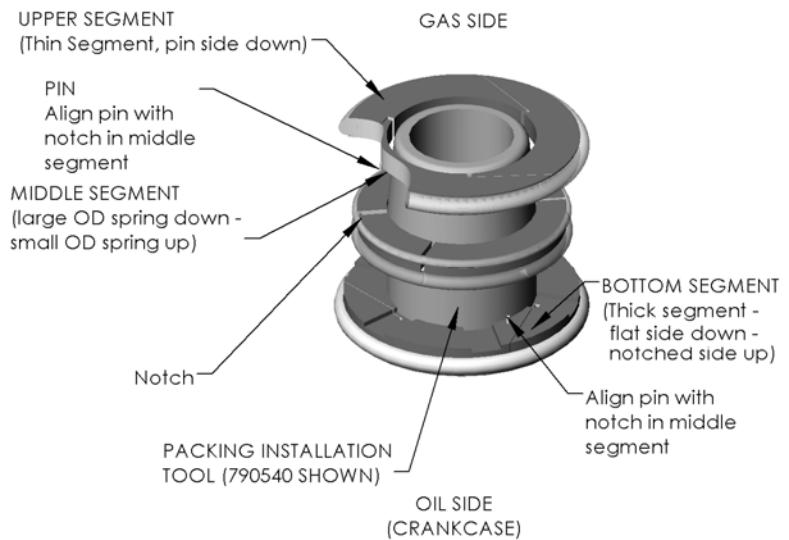
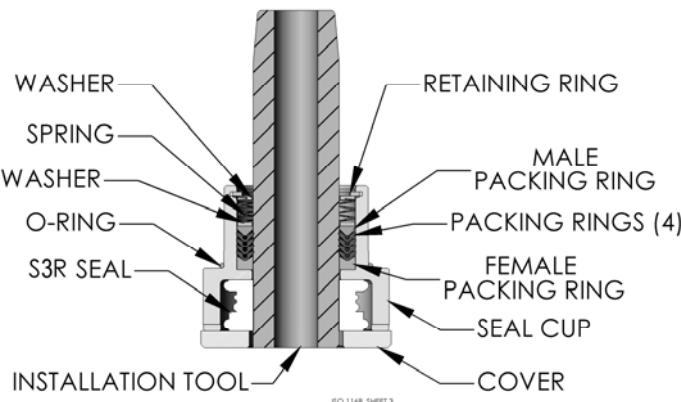

Figure 20b - S3R Oil Seal Installation
Figure 20a – Seal Cup Assembly
- Install the S3R seal in the seal cup as shown in figure 20a. Place the S3R seal on the packing installation tool in the order shown in figure 20b, with the upper segment toward the tapered end of the installation tool. Insert the installation tool, with the S3R seal, into the seal cup, with the tapered end toward the packing rings. Place seal cup cover on seal cup and secure with two capscrews